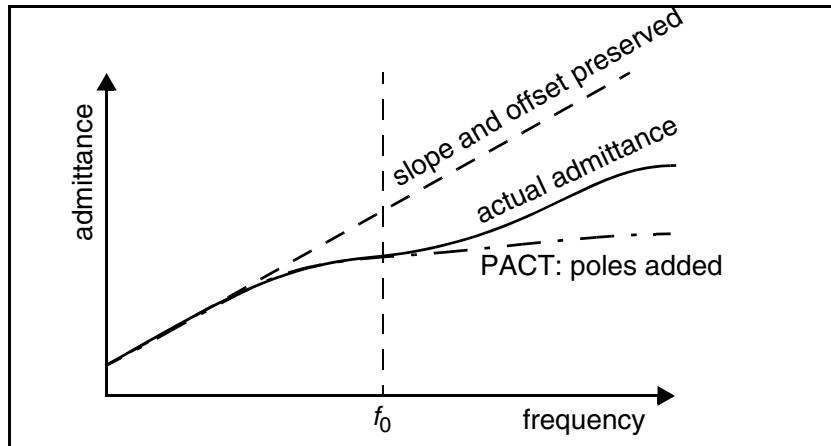

Figure 104 PACT Algorithm
- The transform preserves the first two moments of admittance at DC (slope and offset), so that DC behavior is correct (see Figure 104).